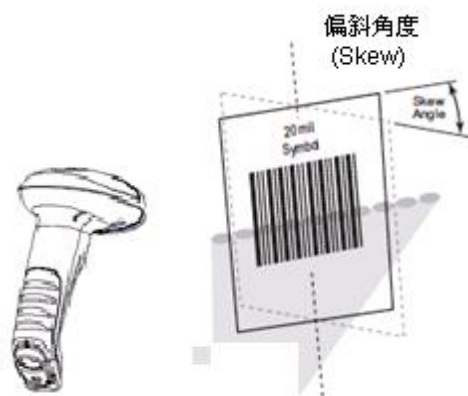

Fig. 1-16
- ◇ Skew: $\pm 75^\circ$, 0° Roll and 0° Pitch (Fig. 1-16)